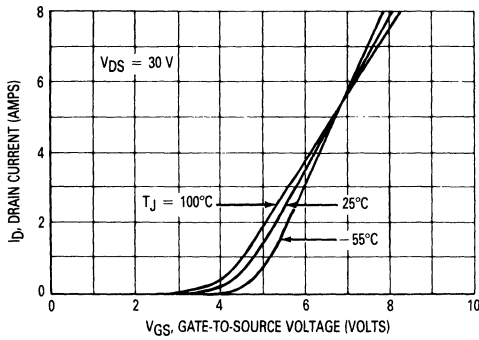

FIGURE 3-3 — TRANSFER CHARACTERISTICS
- The gate voltage that must be applied to initiate conduction (Figure 3-3).
- In current saturation region (Figure 3-3).